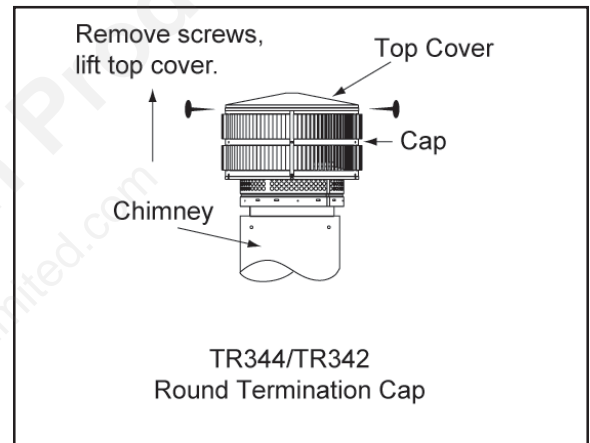

Figure 22
- c. Remove the termination cap or housing top. See Figure 22.